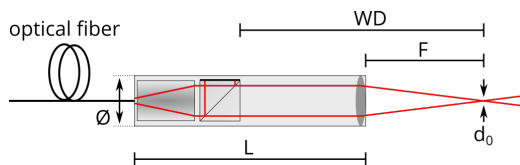

Figure 1. Schematic drawing of the sensor head F01.
After pre-collimation, an integrated beam splitter splits the light into a reference and probe beam as shown in Figure 1. The reference beam is reflected off the reference mirror which is coated to one side of the beam splitter cube. The probe beam is focused by a lens system and exits the head. The front surface of the beam splitter marks the absolute zero position of every PICO SCALE measurement as here the probe and reference beam are of equal length. Thus, the working distance (WD) is not equal to the distance from the head (i.e. focal length F) since the lens system is only integrated into the probe beam.